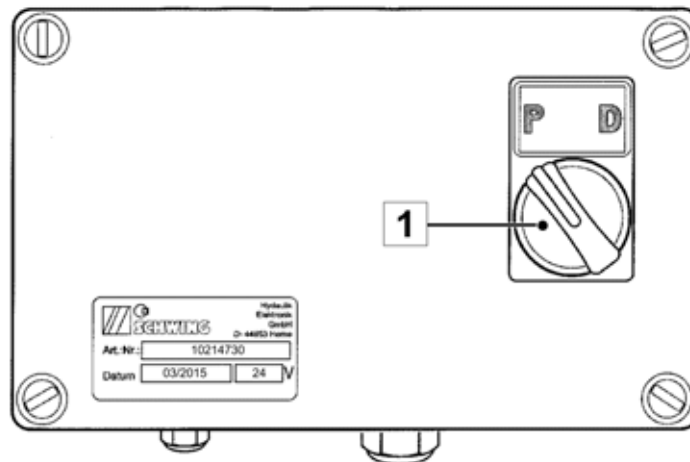

Fig. 117 E-box
(Example: Move switch (1) (**Fig. 117**) in the driver's cab from "D" to "P").
Wait for approx. 5 seconds and then set the switch (1) on the e-box (**Fig. 117**) from position "D" for "Drive" to "P" for "Pump".